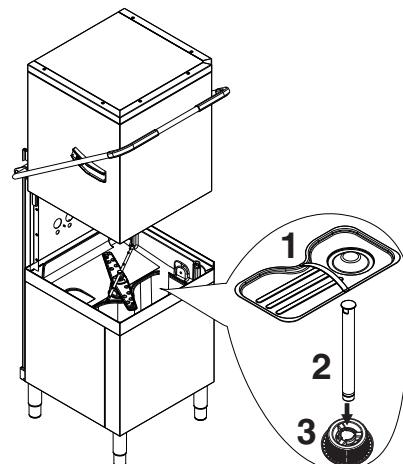

Figure 23 Filters and overflow
- Remove the flat filter "1", the overflow "2" and the tank filter "3" (Figure 23).